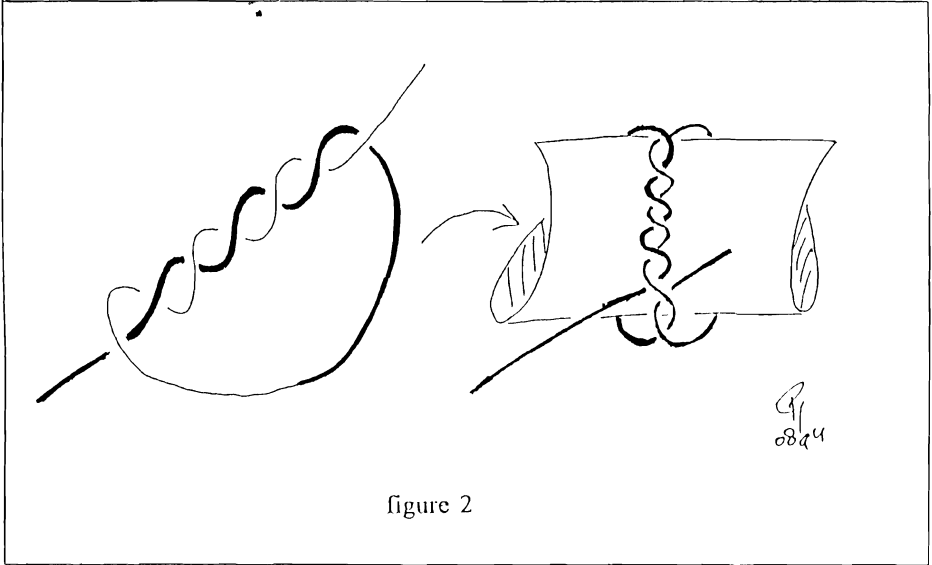
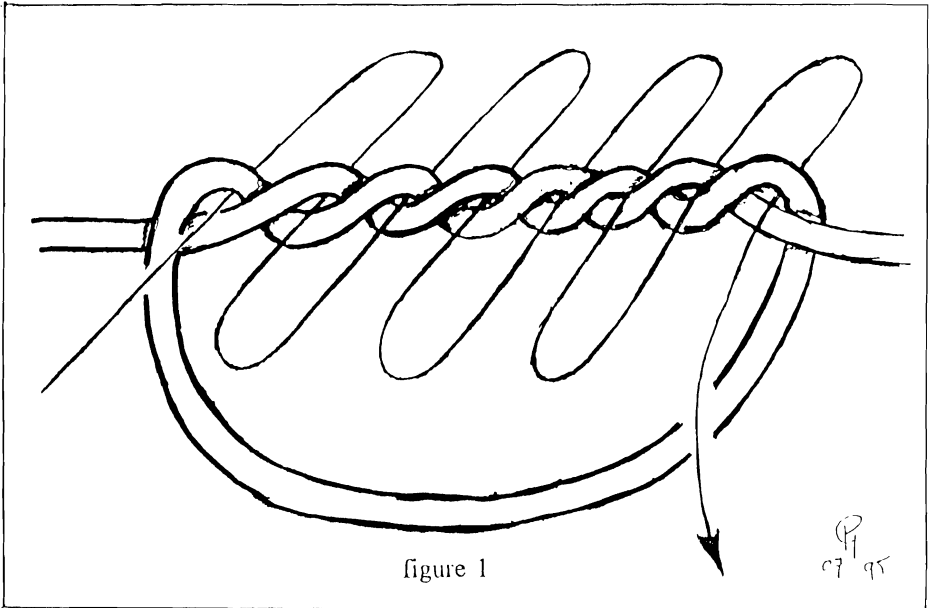
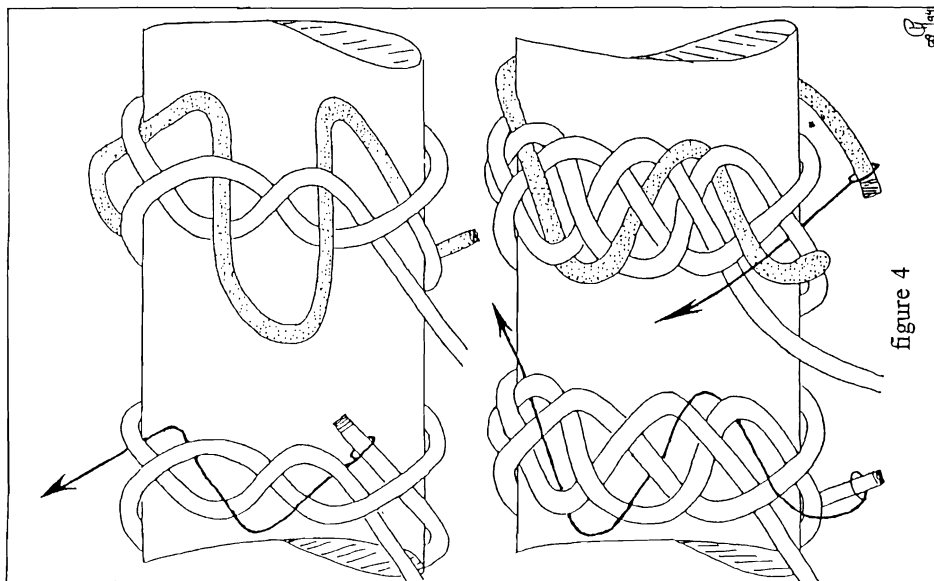

figure 2
figure 1
figure 4
2. Locate the center cores at both ends, and tie them together with a Square (reef) Knot. Fig 1. It is important to pull the ends of the rope as close together as possible without distorting the lay of the rope. The strands should then be loosely tied with an Overhand Knot. This is just
to keep them separate from the others, and will help to identify them later. Fig 2.
5. Take any pair of strands, untie the Overhand Knot, and Square Knot the ends together as tightly as possible. This knot will be pulled through the lay of the rope, so it needs to be secure. Fig 4.
You start with a Multiple Overhand Knot and split its spine, such as is shown in figure 1. This splitting can be done in one of two ways. If you arrange your Multiple Overhand Knot as shown in figure 2, then you can start splitting its spine on either an ingoing or on an outgoing track. These two ways correspond to letting the working end continue its track to either the left of the standing end or to the right, i.e. the so-called left and right expansions of Turk's Heads [5]. Both ways and how to complete the structure into a 4-stranded Turk's Head are shown in figures 3 and 4.
The topview in Fig.1 shows how to make the 4-stranded version of the Single Diamond Knot. In fig.2 the second and inverted Single Diamond is put into place. In the sideview of fig.3 the working ends are tucked away along the already existing bights. In fig.4 the pairs are split and the working ends are tucked away along their track. In fig.5 the pairs are split for the second time and the working ends are taken out through the centreline of the knot (fig.6). Leaving the working ends from where they emerge is useful if one wants to put in extra ply or if one wants to decorate the centreline with something like a Star Knot. Otherwise they can be concealed under the weave such as is shown for the two right-most strands in fig.6.